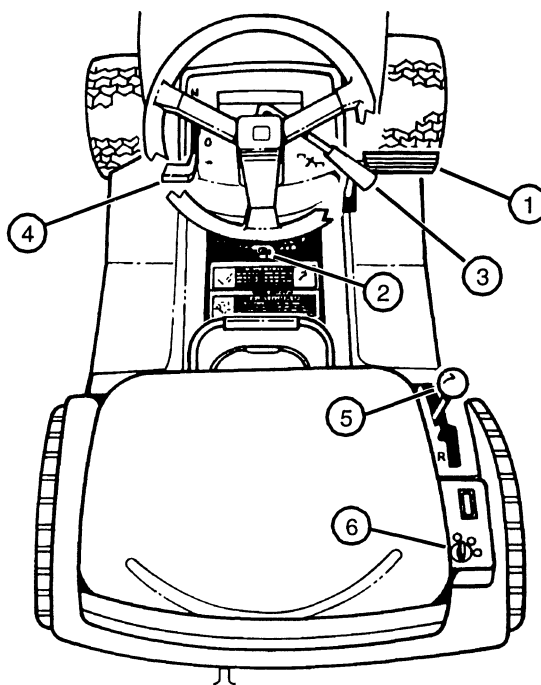

FIG. 15
- Push and hold foot pedal (1) all the way down. (See Fig. 15)
- Move park brake lever (2) forward, then to the left to lock position.
- Disengage blade drive by moving PTO lever (3) all the way back to the rearward position. (See Fig. 15)
- Move transmission shift lever (5) to neutral (N) position.
- Place ignition key in ignition switch (6).
- Push and hold foot pedal (1) all the way forward (or lock the parking brake as described above).
- This unit is built with an environmentally friendly engine, which operates differently from previous engines. To start the engine, place the throttle lever (4) in the choke position. As the engine begins to run smoothly, lower the throttle lever in small steps, allowing the engine to accept changes in speed and load, until the throttle lever is in the FAST position.
- Turn ignition key (6) to start position to crank the engine. Crank engine until it starts, but no longer than 5 seconds.